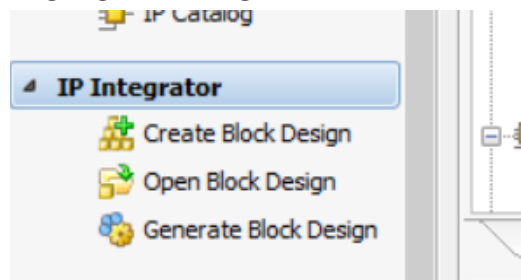

Figure 2.25: Opening an existing block diagram
- Open the block design from the sources panel by expanding the sources and double clicking on the block design as highlighted in Figure 2.25.